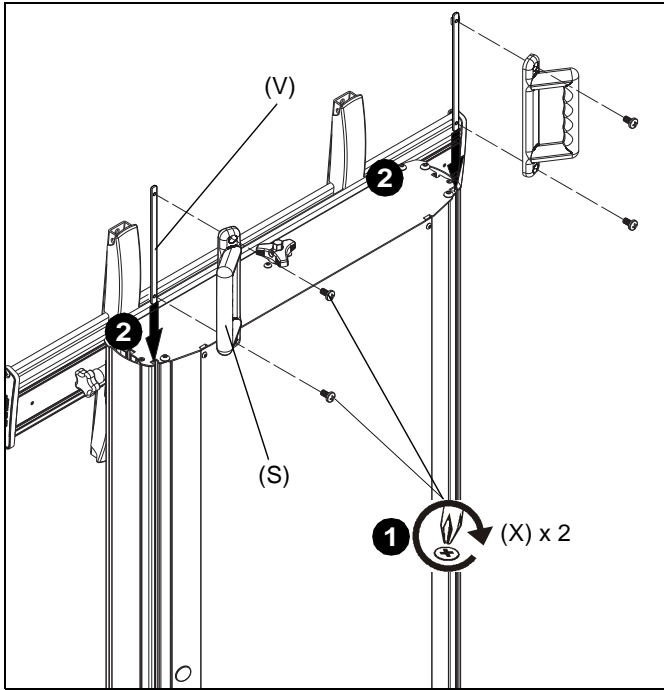

Figure 12
1. Loosely install two 1/4-20 x 5/8" Phillips pan machine screws (X) through holes in each handle (S) and into slide nut (V). (See Figure 12)
2. Slide each handle into slots back of cart. (See Figure 12)